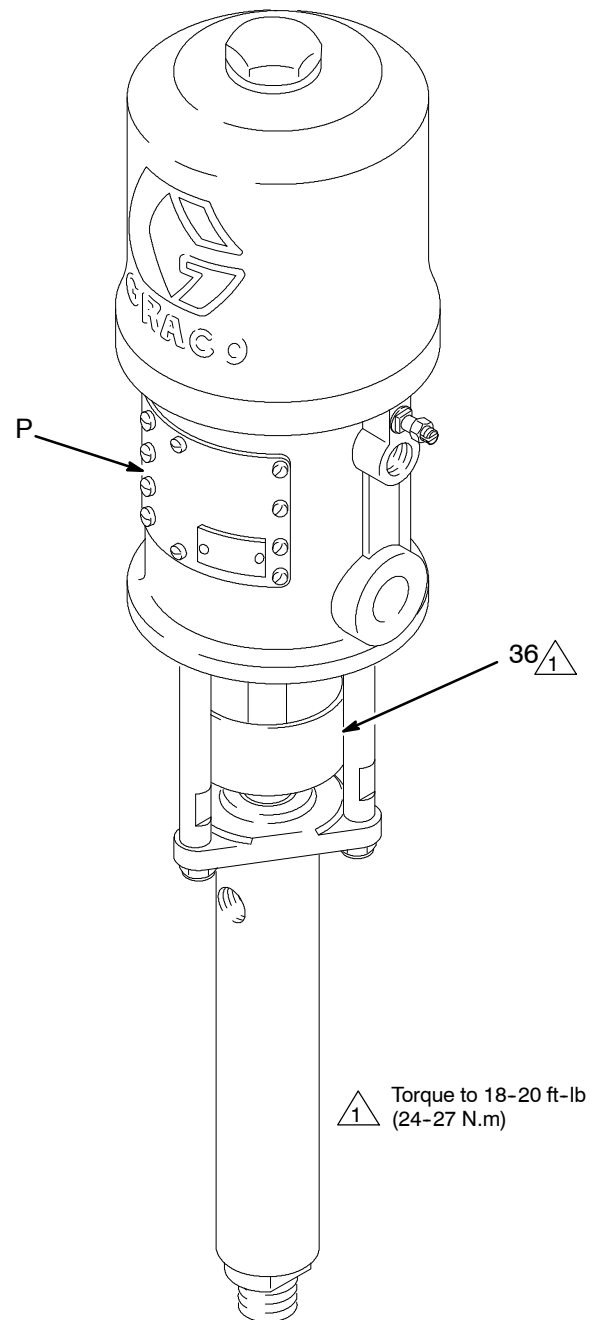

Fig. 3
Do not operate without the air motor plates (P, Fig. 3) in place. Pinching or amputation of fingers or hands may occur. See **MOVING PARTS HAZARD** on page 3.
Keep the packing nut/wet-cup (36) filled with Graco Throat Seal Liquid (TSL) or compatible solvent, to help prolong the packing life. See Fig. 3.